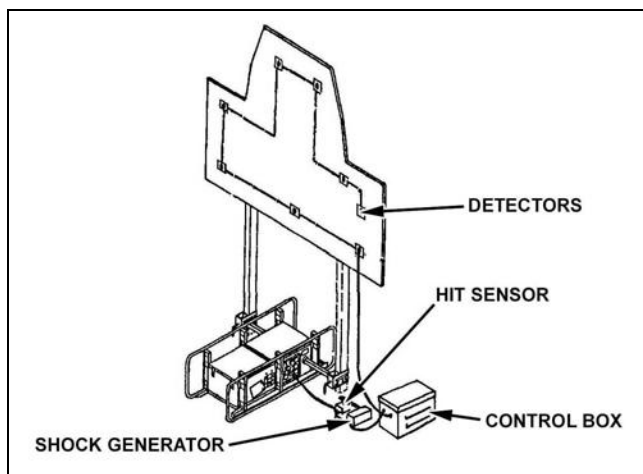

Figure 4-11. Laser target interface device.
b. **Laser-Target Interface Device.** The LTID (Figure 4-11) aids in gunnery training with MILES or PGS. The LTID receives a coded MILES message and converts it into electrical pulses. These pulses activate the shock generator mechanism that activates a hit sensor, simulating a projectile striking the target. LTIDs can be used on full-scale, half-scale, or one-tenth-scale (on M31A1 lifters). Targets with LTIDs enhance training on BT I, BT II, BT III, and BT IV as well as on the device-based BT XI (TM 9-1265-376-10). System components include detection and electronic assemblies and a shock-generator mechanism.